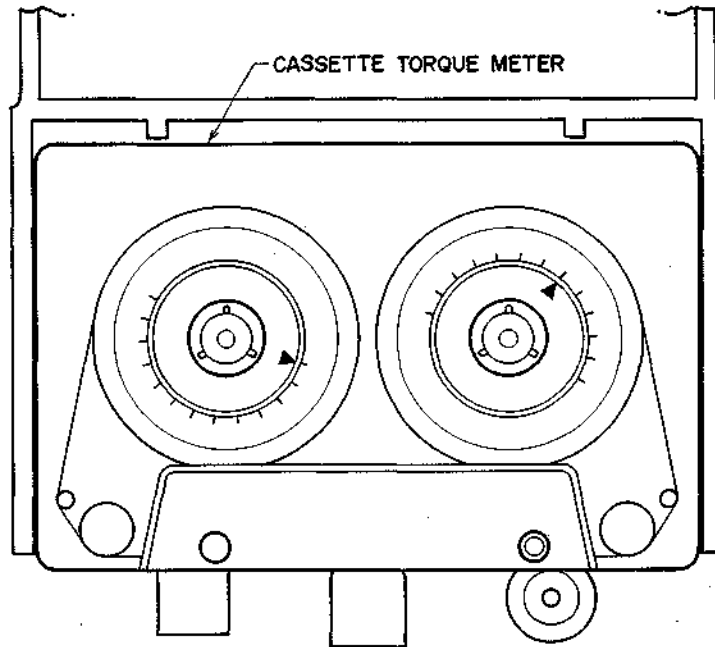

Fig. 22
12. TAKE-UP TORQUE AT VARIOUS MODES AND TORQUE MEASURING METHOD (See Fig. 22)
As shown in Fig. 22, set a cassette torque meter on cassette base, and take a reading of the \blacktriangle indication at each respective mode.